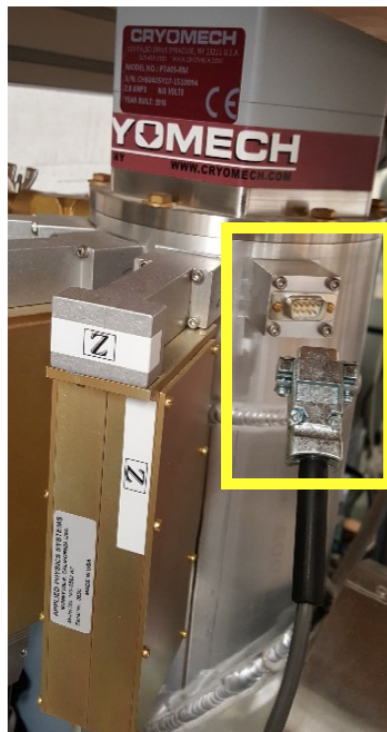

Figure A11: RS232 port on the Cryomech Cold head (yellow box).
4. Connect the Model 202 Control Monitor Rock Mag port to the RS232 port on the cold head (**Figure A11**). The Rock Mag Port is used to connect the control box to the cold head and read the shield and SQUID temperatures. This cable is always connected to the control monitor, but must be left disconnected from the cold head when not in use. The RS232 cable is connected to the cold head when temperature readings are taken.